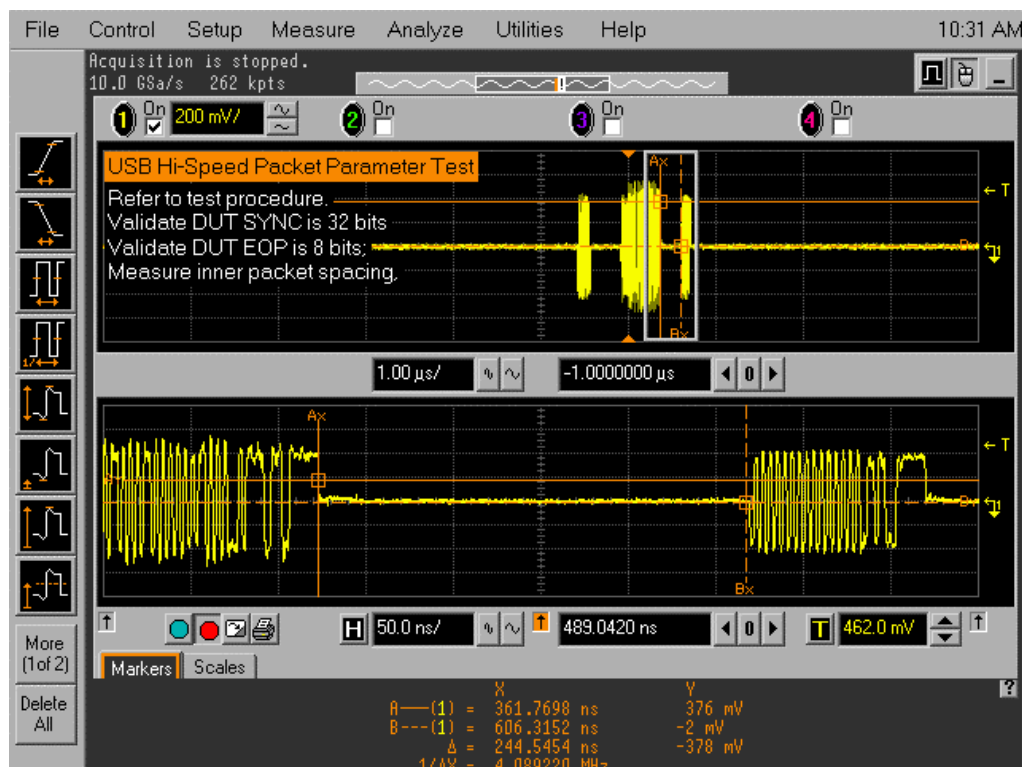

Figure 16. Inter-packet Gap – Host Response to Device
- a. The oscilloscope capture should appear as in Figure 16.
14. Measure the inter-packet gap between the second and the third packets shown on in Figure 16.